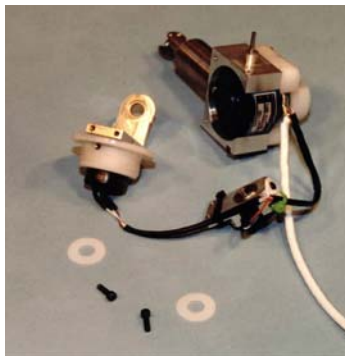

Figure 10.8- Separation of DGSP
7. Carefully separate Rotary Potentiometer #1, DGSP Right Arm and String Potentiometer Assembly (T1DPM300) from the DGSP yoke left arm, as shown in **Figure 10.8**. Two Teflon washers will fall off the lower trunnions of the string potentiometer assembly.